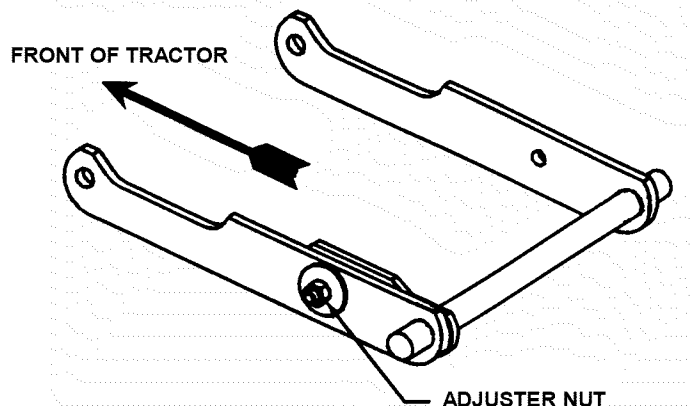

FIGURE 4.15
10. Loosen the front adjuster nut until adjuster moves freely. Then tighten the nut until the adjuster moves only when moderate force is applied to one side of the deck. See Figure 4.15.